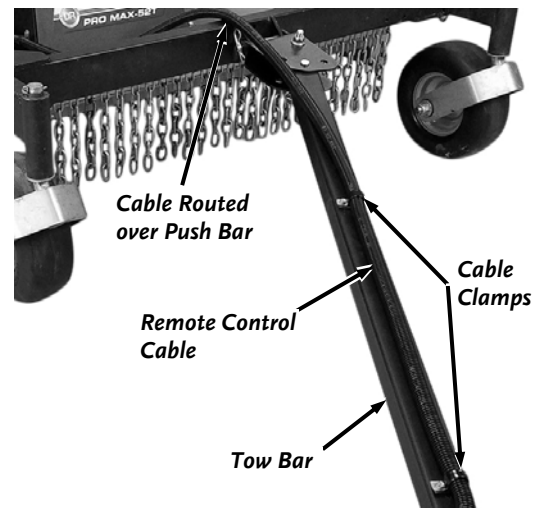

Figure 6
- Gently spread open the Cable Clamps and install them onto the Control Cable, positioning the clamps on the tow bar keeping the Control Cable flat and centered on the Tow Bar (**Figure 6**).